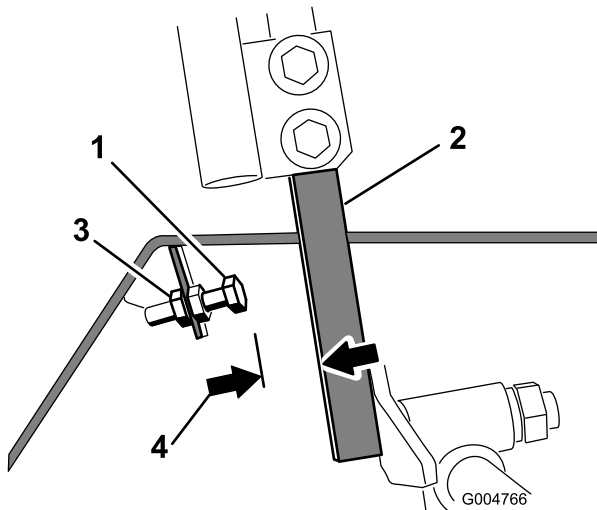

**Figure 56**
3. Remove the bolts securing the front panel and remove the panel (Figure 56).